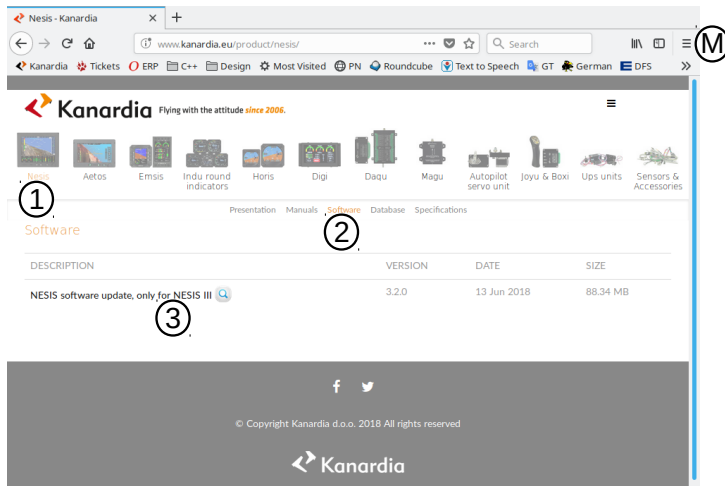

Figure 43: Illustration of the Aetos software download page. Usually only latest update is available.
- ① Open the home page and select *Aetos* icon on the top. This leads to Aetos specific page.
- ② Select *Software* next. This opens a page with Aetos specific software. An example is shown on Figure 43.
- ③ Click on the link to start download process of selected software file. Before downloading the software, a window appears asking for your email address. This is optional. Download will be completed also if address is not given.
1. Click on the ≡ menu symbol. See label (M) on Figure 43.